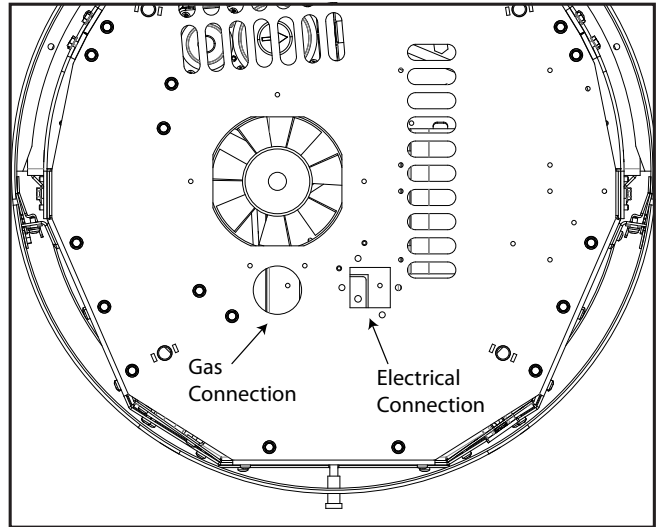

Figure 81: Gas & Electrical Connection Points (Bottom View)
4. Rewire the IEC electrical outlet and position over the hole shown in Figure 81.